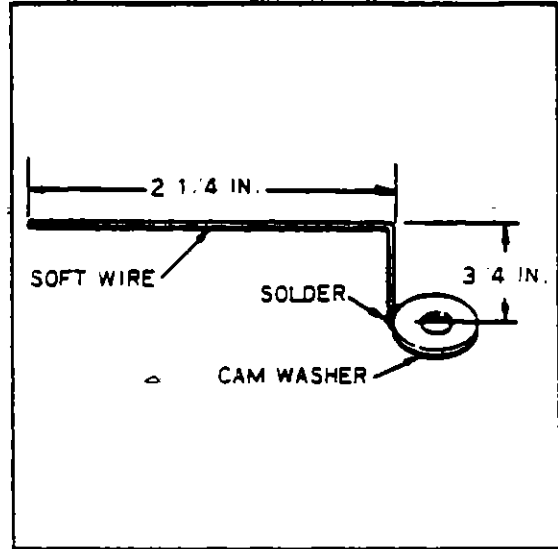

FIGURE 7A-18. TIMING POINTER
c. Rotate coupling from neutral, in a left hand direction  $10^{\circ}$ . Appearing through timing hole, when the white or red tooth aligns with the white line of the distributor block, the magneto is set at "E" gap. (Refer to Figure 7A-17.) Alignment may not vary over  $4^{\circ}$ .